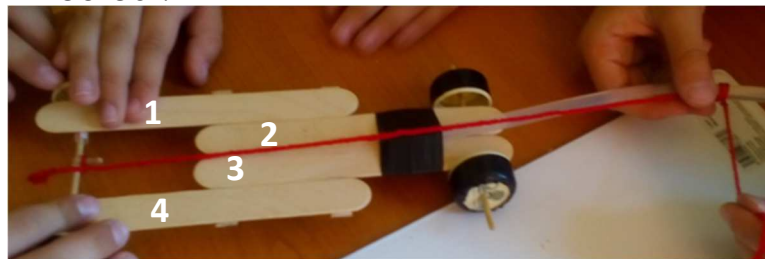

Figure 2: The Eco-car 2 with the four wooden sticks marked
3. Place the 4 lollipop sticks in the configuration that you see in Figure 2 and 3. Stick 1 and 4 are on the outside of stick 2 and 3. Stick 2 and 3 ought to be about halfway in on the whole length of stick 1 and 4 and between stick 1 and 4. They should not be more than halfway in between.
22. Tie one end of the string securely around axle 2 and the hook. Then tie the other end securely to the loose front end of the straw. Look at Figure 2. The red thread is rather straightened out there.